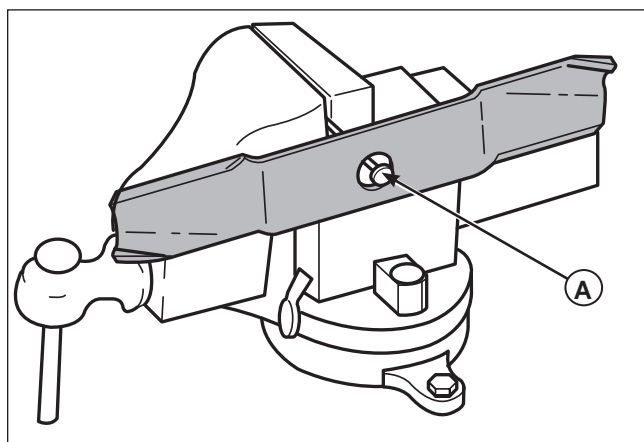

Figure 26. Balancing the Mower Blade
2. See Figure 26. Put the mower blade on a nail in a vise and turn the blade to the horizontal position.
See Figure 26. In addition to the forward and backward seat adjustment, models equipped with a suspension seat can be adjusted for lumbar support, suspension and back angle.